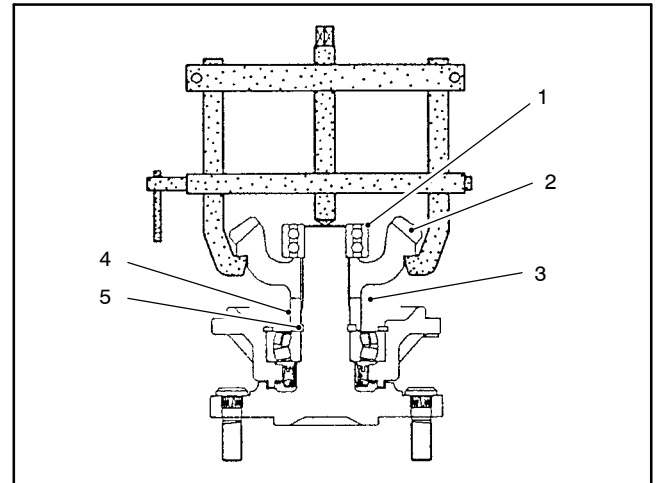

Figure 24
2. Use a bearing puller to remove the bearing and bevel gear as shown (Fig. 24).